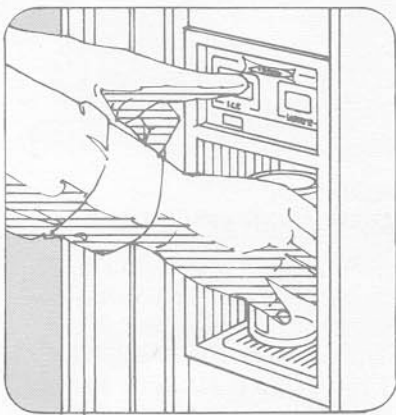
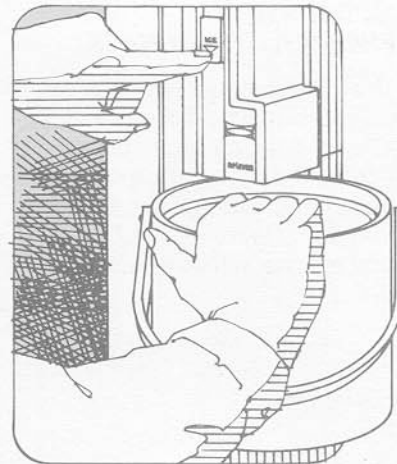

Figure 13
Figure 14
This automatic water and ice dispensing product offers the convenience of dispensing both chilled water and ice from the product without having to open the doors. See Figure 13.
**The water dispenser operates as follows:** To operate the water dispenser, the water dispenser switch must be depressed continuously for the required amount. This switch is located on the refrigerator door glasswell. See Figure 13. The very first time the water dispenser is operated, it will be necessary to flush and purge the water system and water storage tank **for three minutes**. This procedure will clear out any air in the system as well as any foreign material that occurs with a new plumbing connection in the home.
**The ice dispenser operates as follows:** To operate the ice dispenser, the ice dispenser switch must be depressed continuously for the required amount. This switch is located on the refrigerator door glasswell. See Figure 13.
The ice dispenser feature can deliver ice in two different ways: (1) By inserting a glass into the glasswell and then depressing the ice dispenser switch as in Figure 13, ice cubes will automatically dispense into the glass. (2) If a larger quantity of ice is required, open up the refrigerator door, position an ice container underneath the ice dispenser chute and then depress the button for bulk ice dispensing. See Figure 14.